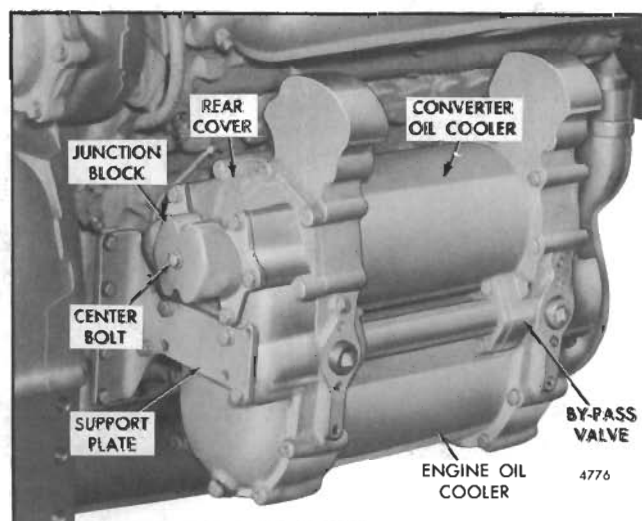

Fig. 9 - Single Tube-Type Oil Cooler Mounting
Certain engines are equipped with a tube-type oil cooler mounted on the side of the engine. Torqmatic converter units use a single basic oil cooler which consists of two sections; one section for the engine oil and the other section for the converter oil (Fig. 9).
A by-pass valve (Fig. 9) is provided which will permit the engine oil to flow directly through the oil cooler should the oil filter become clogged.
8. On the single tube type oil cooler (Fig. 9), use a new gasket and attach the junction block to the oil cooler rear cover with six 3/8"-16 x 1" bolts and lock washers. Also install the 3/8"-16 x 2" center bolt and lock washer. Tighten the bolts to 30-35 lb-ft (41-47 Nm) torque.